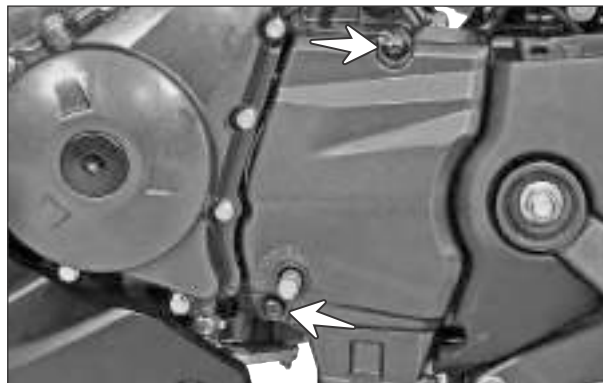

Fig. 2.91
- Remove the CRR pan head screws (M6x20 - 2 nos.) from the cover engine sprocket mounting and take out the cover. Fig. 2.91) (